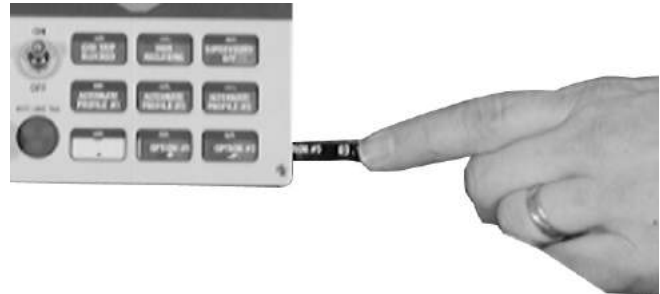

Figure 21. Labels are easily removed from and inserted into the operating panel
Note: The insert will slide out of the top of the programming panel indicator section (**Figure 21**).
6. Gently push the removable insert from right to left into the right side of the operating panel (**Figure 21**) or down into the programming panel LED indicator section (**Figure 20**).